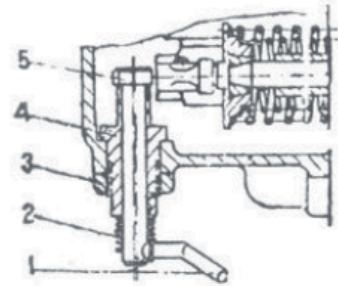

Fig. 13
2. Rotate the eccentric bushing through an angle to make the adjustment. Turn clockwise if decompression is too low, turn counterclockwise if decompression is too high. (Fig. 13).